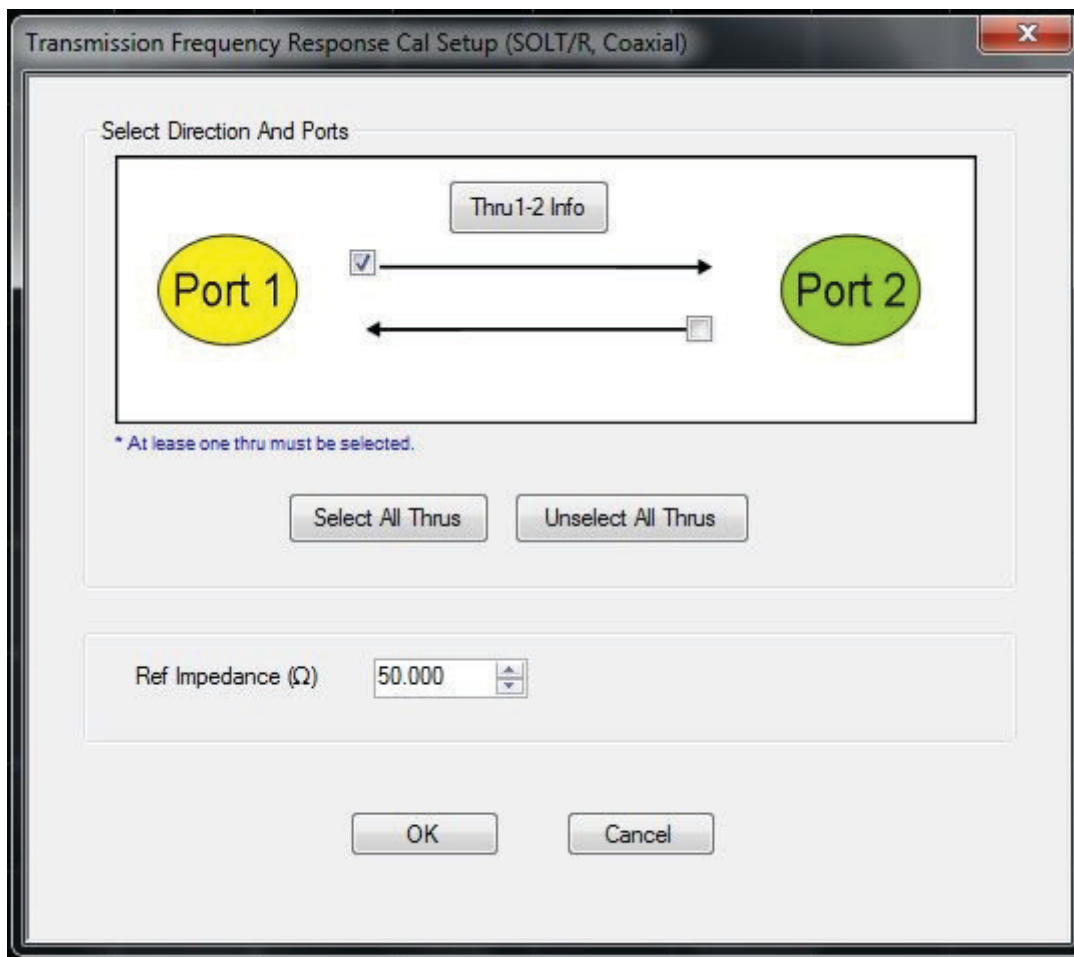

Figure 3-44. TRANSMISSION FREQUENCY RESPONSE CAL SETUP (SOLT/R, Coaxial) Dialog
6. Select Edit Cal Params (see Figure 3-44).